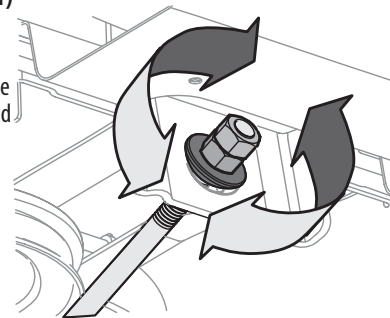

Figure 19
4. To raise the front of the deck, loosen the outer nut then tighten (thread inward) the nut against the front hanger bracket. See Figure 19. When proper adjustment is achieved, re-tighten the outer nut to 25–30 ft.-lbs (33.9–40.7 N-m).
- To *lower* the front of the deck, loosen the outer nut then loosen (thread outward) the nut, away from the front hanger bracket. See Figure 19. When proper adjustment is achieved, re-tighten the outer nut.